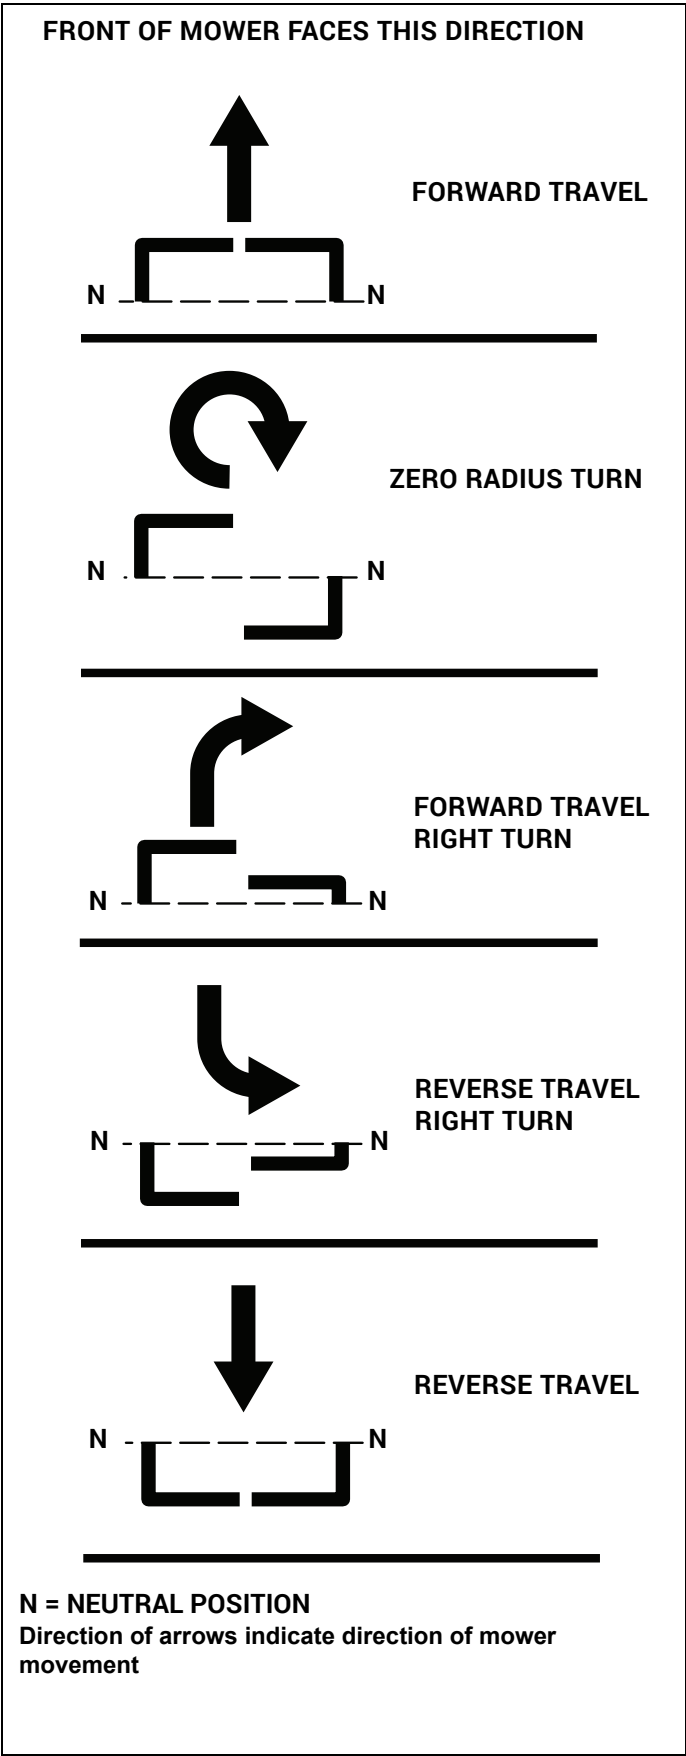

Figure 3-11
**To go forward**, push steering control levers forward an equal distance. Figure 3-11
**To go in reverse**, pull steering control levers rearward an equal distance. Figure 3-11
**To turn right**, move the left steering control lever farther forward from neutral than the right steering control lever. Figure 3-11
**Zero radius turn**, move one steering control lever forward and the other steering control lever back of neutral. This will allow the drive wheels to counter-rotate. Figure 3-11